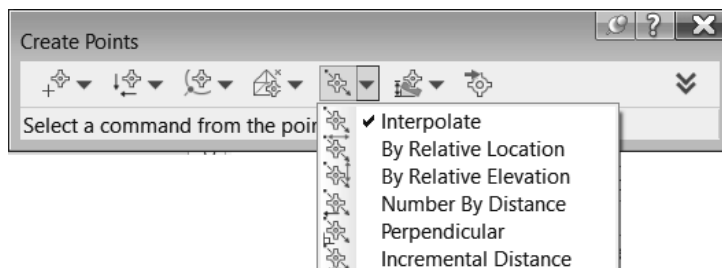

Figure 2–58
2. Click  (Import Points) to open the Import Points dialog box (shown in Figure 2–59).